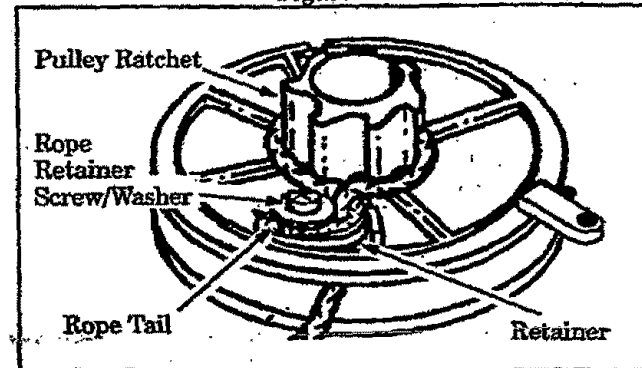

Figure 19
13. Wrap rope counterclockwise around the pulley ratchet and tuck the loose end back under the rope, leaving about a 1 inch tail next to the Retainer Rib. Figure 19.